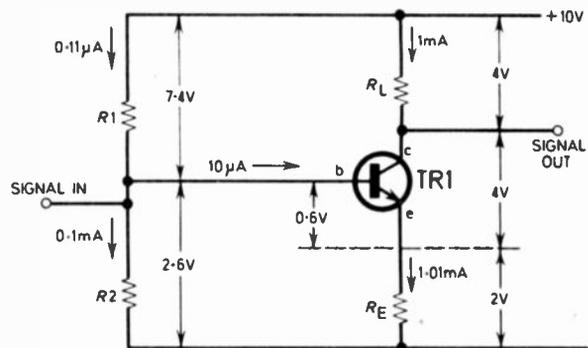

Fig. 20.1. Calculated current flow and voltage drops in the design of a simple single-stage amplifier.
Design of a simple class A common emitter stage amplifier using potential divide biasing is detailed below and in Fig. 20.1.
**Step 1** First, all VOLTAGE DROPS should be calculated as shown in Fig. 20.1. Remember that about 0.6 volts must be allowed for across the base/emitter junction of TR1 (shown *npn*).